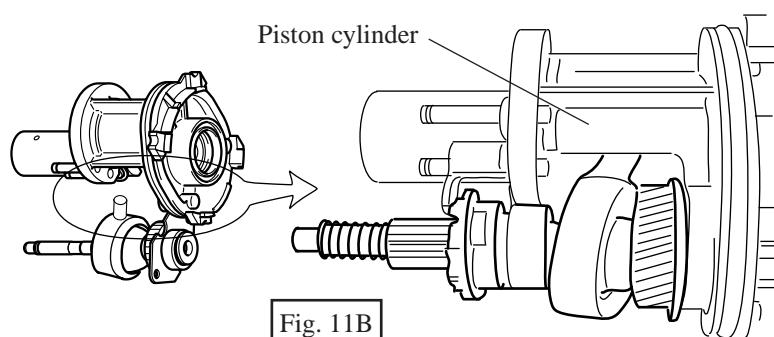

Fig. 11B
4. Bringing piston cylinder to the dead point for swash bearing 10, assemble swash bearing 10 to piston cylinder by inserting its pole into the hole of piston joint as illustrated in Fig. 11B.